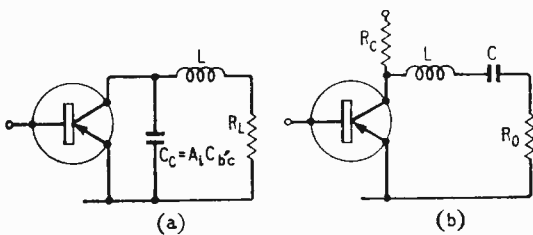

Fig. 29. Series-inductance high-frequency peaking, showing the basic circuit (a) and at (b) the practical circuit.
**Series-inductance H.-f. Compensation:**—Series inductance peaking is illustrated in its basic form in Fig. 29, and consists of inserting an inductor L in series with the transistor output. This inductor is approximately chosen initially to resonate with the collector output capacitance,  $A_{io} \times C_{b'c}$ , at the collector cut-off frequency:
It is then adjusted by cut-and-try methods. The practical circuit takes the form of Fig 29 (b) where